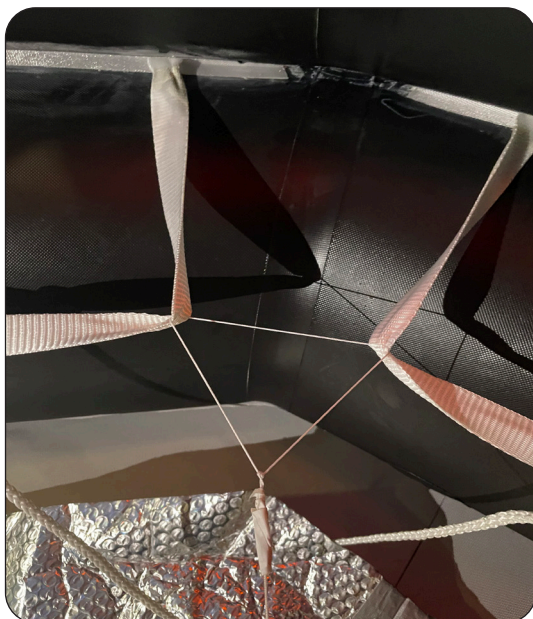

Figure 9
- (1) Cut the correct length of activation line (50 lb cord) (Refer to **Table 1**).
- (2) Loop the activation line around two adjacent lifelines.
- (3) Use a bowline knot to tie the activation line (Refer to **Figure 9**).
- (4) Wind self-adhesive tape around the flying ends to hold in position.